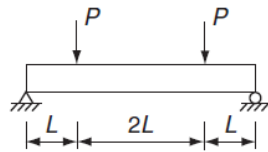

Figure 33 Question 46.
46. The strain energy stored in the beam with flexural rigidity EI and loaded as shown in Figure 33 is